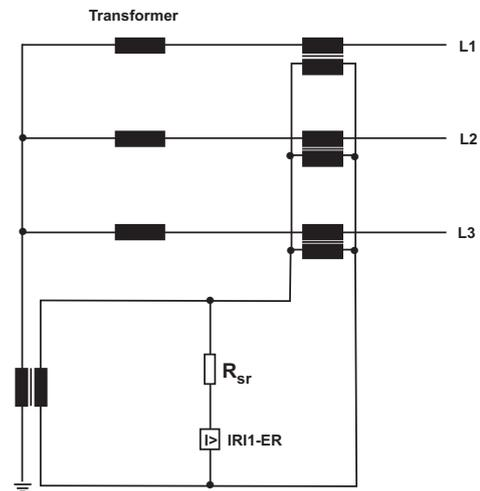
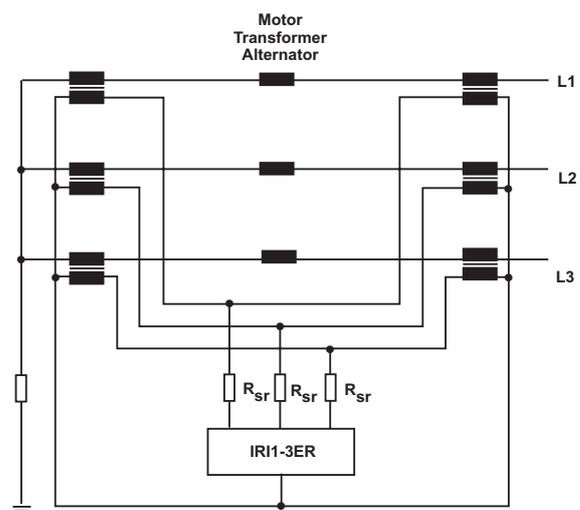

Fig. 2.1: Zero-current differential protection of a transformer in star-connection (**IRI1-ER**)
Fig. 2.2: Highly stabilized differential protection for alternators, transformers and motors (**IRI-3ER**)
- Zero-current differential protection of the star point winding (restricted earth fault) of a transformer (**IRI1-ER**), see figure 2.1
- Highly stabilized differential current relay for alternator, transformers and motors (**IRI-3ER**), see figure 2.2
The protection relay **IRI1-ER** is connected to the differential circuit of the c.t.s as a current differential protection relay. When used as zero-current differential protection (restricted earth fault), the relay (**IRI1-ER**) is to be connected acc. figure 2.1. When used as highly stabilized differential current relay, the relay (**IRI1-3ER**) is to be connected acc. figure 2.2.